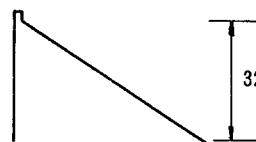
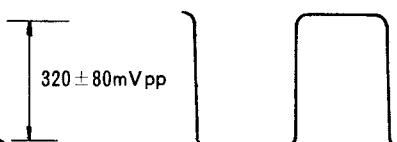

Fig. 9-1
Fig. 9-2
- Set "↖" Control (PVR8) at "10" and EXT/NOISE Control (PVR7), to "0", "↖" Control (PVR9) at "0". Now the waveform shown in Fig. 9-1 should be at TP24. Set EXT/NOISE Control (PVR7) to "0" and "↖" Control (PVR8) at "0" and "↖" Control (PVR9) and "10". Now the waveform shown in Fig. 9-2 should be at TP24.